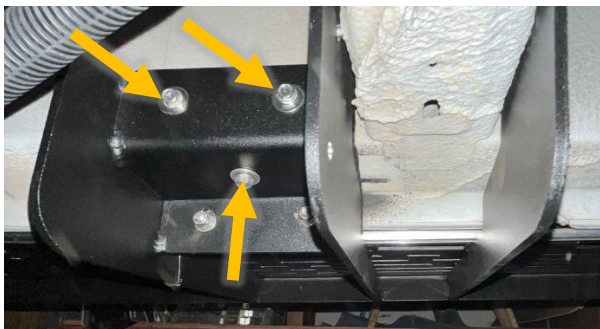

Figure 4: Step Bracket Installation Behind Pinch Weld
- Once the correct placement along the van has been located, fasten the upper vertical and horizontal flanges of the step brackets to the vehicle using the self-tapping hardware as shown in **Figure 4**. Place firm pressure on the step against the pinch weld and mating vehicle features to ensure that the steps are properly seated as they're fastened. There are five (5) self-tapping screws on the front bracket and three (3) per bracket on the rear brackets that should be installed horizontally as shown in **Figure 4** for a total of 11 screws.